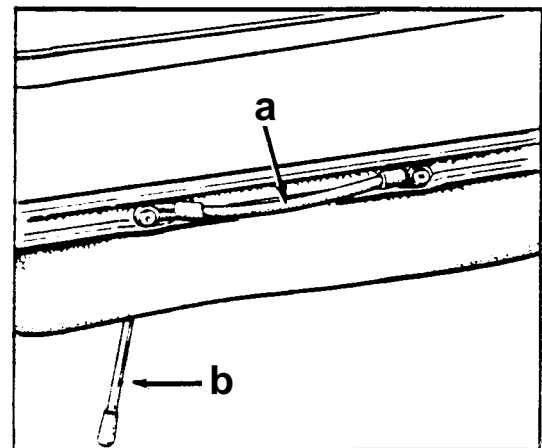

Figure 13
5. While lifting the machine up with the machine lift handle (a), lower the support leg and position like a kickstand (b). See Figure 13